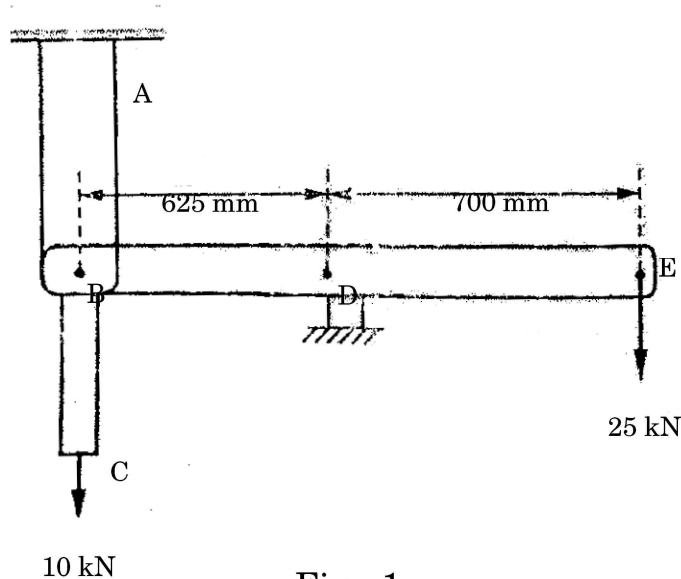

Fig. 1
1. (a) Calculate the vertical displacement of point C for the structure shown in Fig. 1. Neglect the weight of the bar and beam. [6]